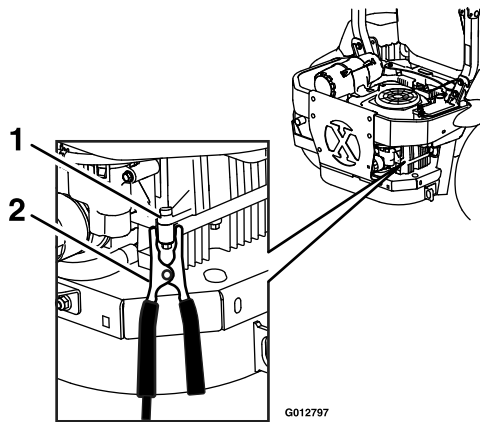

Figure 41
6. MAKE THE FINAL CONNECTION ON THE ENGINE BLOCK OF THE STALLED VEHICLE (NOT TO THE NEGATIVE POST) AWAY FROM THE BATTERY. STAND BACK (see Figure 41).